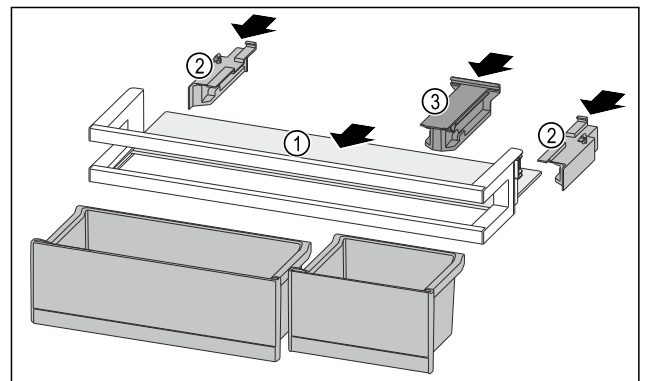

Fig. 136
- Push the shelf Fig. 136 (1) into the side cutouts.
- Insert the side parts Fig. 136 (2).
- Insert the retaining part Fig. 136 (3).